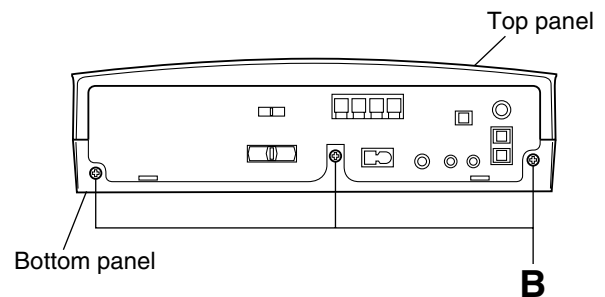

Fig.2
■ Removing the bottom panel (See Figs. 2 and 3.)